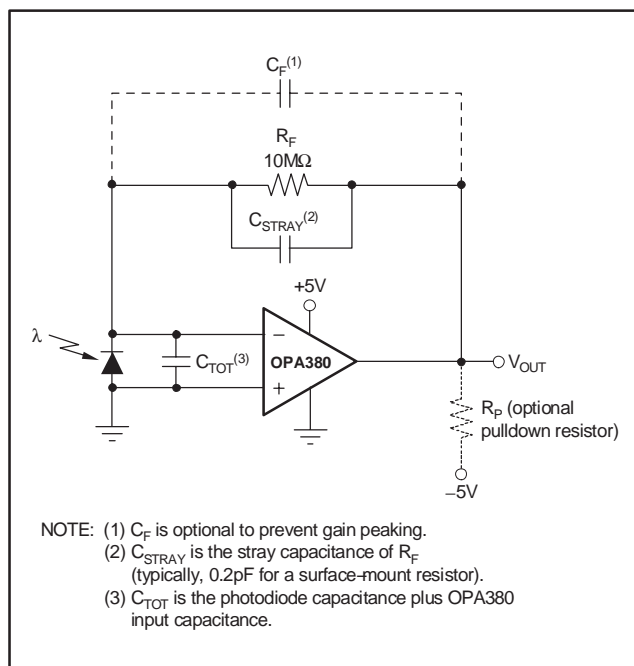

Figure 5. Transimpedance Amplifier
(1) 300-hour life test at $150^\circ C$ demonstrated randomly distributed variation approximately equal to measurement repeatability of $1\mu V$.
(2) Tested with output connected only to R_P , a pull-down resistor connected between V_{OUT} and $-5V$, as shown in Figure 5. See also applications section, *Achieving Output Swing to Ground*.
The key elements to a transimpedance design are shown in Figure 5: